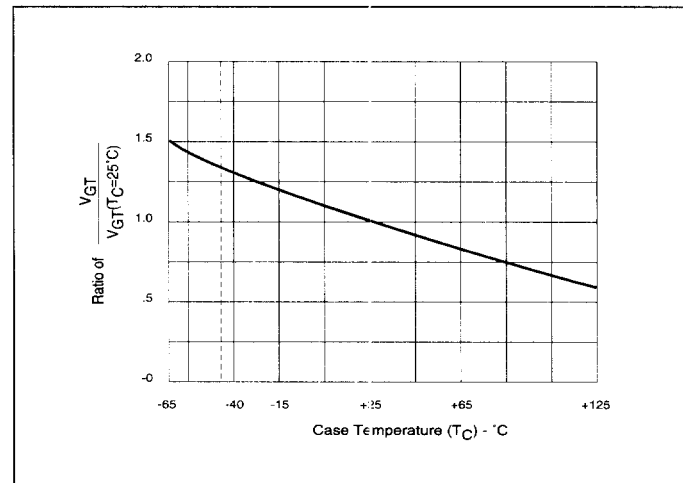

Figure 2.12 Normalized DC Gate Trigger Voltage for All Quadrants vs Case Temperature
- See Figure 2.12 for VGT vs TC.